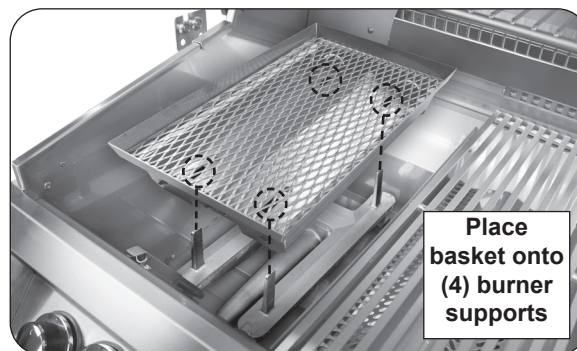
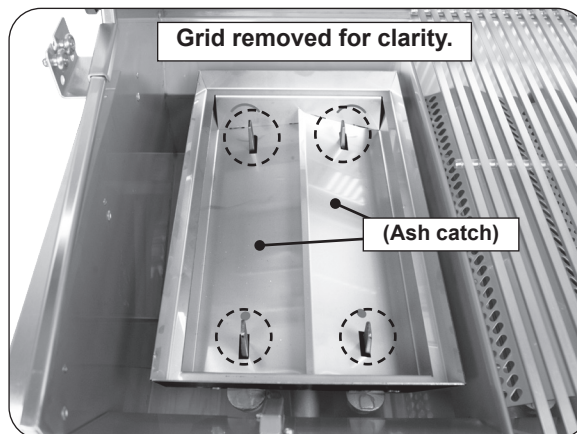

Fig. 37-3 Place basket onto burner
Fig. 37-4 Basket placement detail
3. Place basket onto burner in place of flavor grid. Align basket cutouts over burner supports (see Fig. 37-3 and Fig. 37-4).